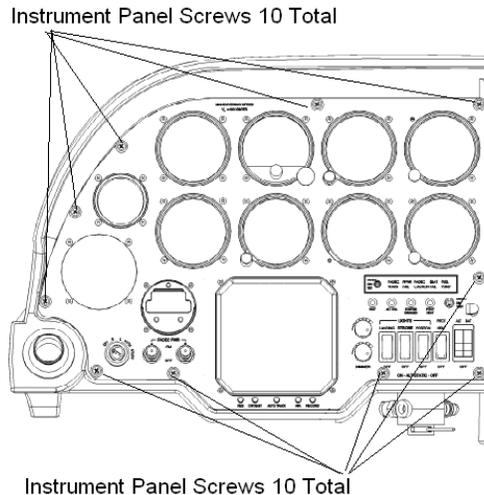

Figure 30-5 Location of the Screws Securing the Instrument Panel
5. Remove the ten screws securing the instrument panel to the instrument console. See for Figure 30-5 location of the screws.
5. Remove the ten screws securing the instrument panel to the instrument console. See Figure 30-5 for location of the screws.